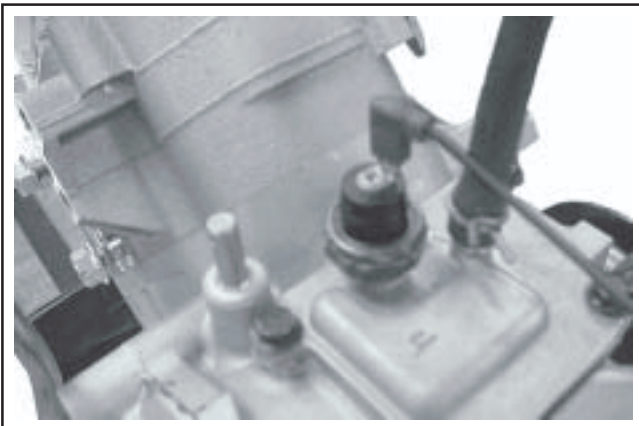

Figure 9-24. Oil Sentry™ Location on Engine.
1. Disconnect the wire lead from the Oil Sentry™ switch, and remove the switch from the breather cover. See Figure 9-24.